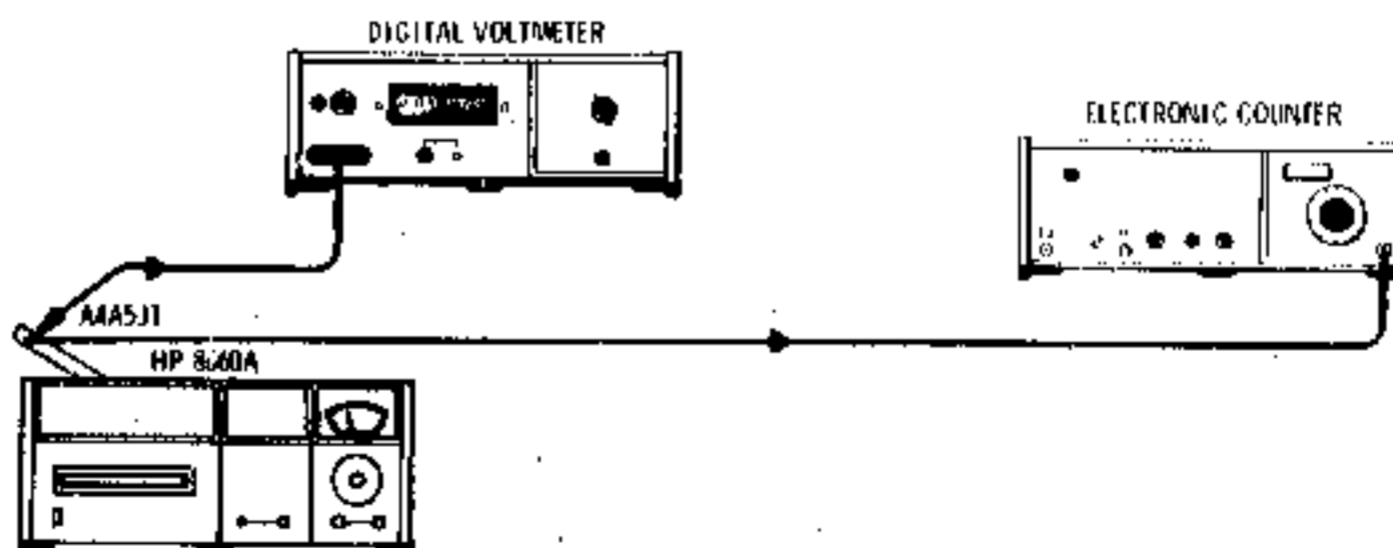

Figure 7-21. Voltage Controlled Oscillator Adjustment Test Setup
3. Voltage controlled oscillator adjustment. (See Figure 7-21.)